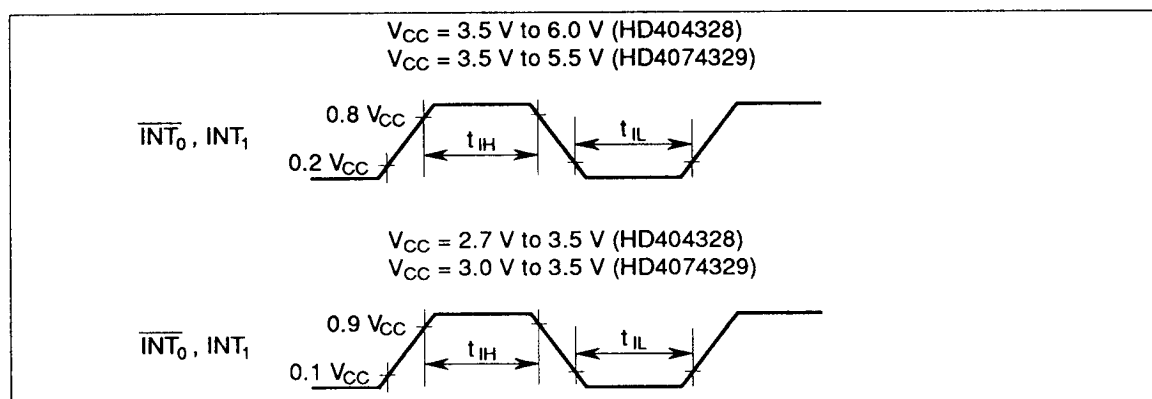

Figure 52 Interrupt Timing
5. Refer to figure 52. The t_{cyc} unit applies when the MCU is in standby or active mode.
6. Refer to figure 52. The t_{SUBcyc} unit applies when the MCU is in watch or subactive mode. $t_{SUBcyc} = 244.14 \mu\text{s}$ (32.768-kHz crystal)